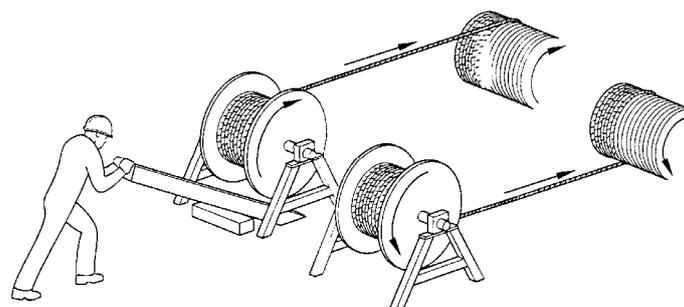
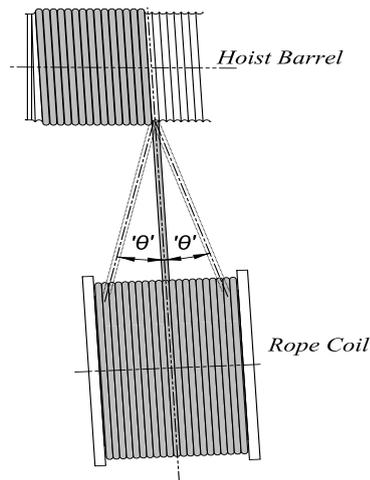

Figure 51 – Winding of new wire ropes
Figure 52 - Fleet angle
If it is not possible to uncoil the rope prior to fitting, the rope may be transferred directly from the reel to the hoist barrel. Place the reel on a suitable stand and ensure that the reel can rotate freely. When winding from reel to barrel the rope should be bent in the same direction. Wind from top of reel to top of barrel or from bottom of reel to bottom of barrel (see Figure 51).
- Transfer the new rope onto the hoist barrel. Ensure that sufficient tension is applied to the reel to prevent loops from forming. Tension can be applied with suitably gloved hands or with a brake on the reel (see Figure 51). During installation, also ensure that the fleet angle θ does not exceed $1\frac{1}{2}^\circ$, (see Figure 52).